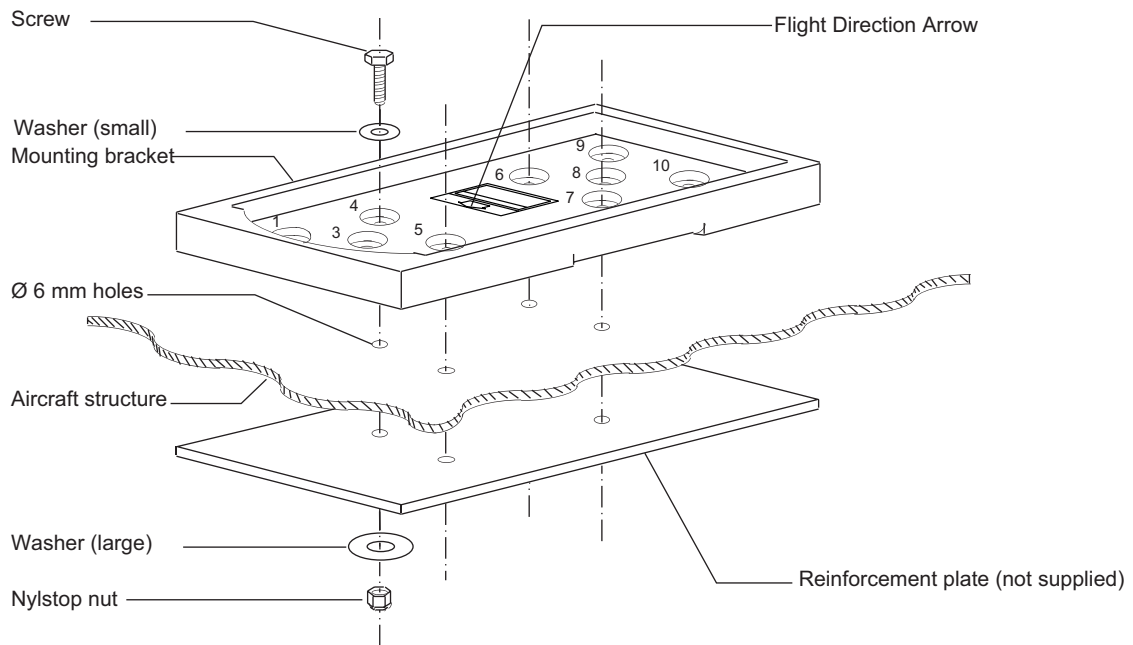

Figure 202: Bracket Installation
- If the aircraft structure is not solid enough to withstand a 500 kg traction on the bracket, a reinforcement plate (not supplied) should be installed as shown Figure 202: Bracket Installation.